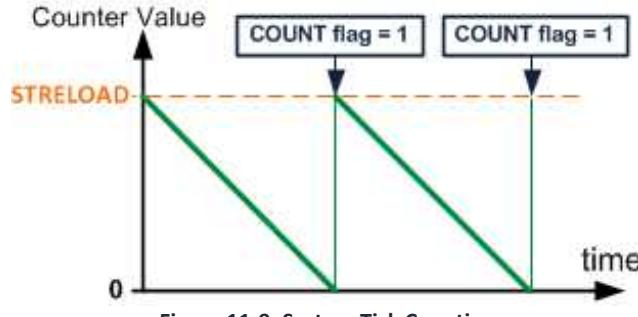

Figure 11-9: System Tick Counting
**COUNTFLAG (D16):** Counter counts down from the initial value and when it reaches 0, in the next clock it underflows and the COUNT flag is set high. See Figure 11-9. The flag remains high until it is cleared by software. The flag can be cleared by reading the STCTRL register or writing to the STCURRENT register.